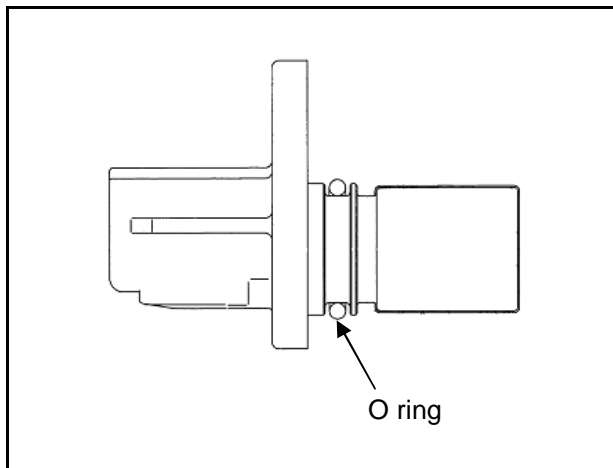

Fig.9-Installing the cam position sensor
(1) Coat clean engine oil on the O ring.Fig.9.
(2) Set Cam position sensor to the engine, tighten 1 set bolt.